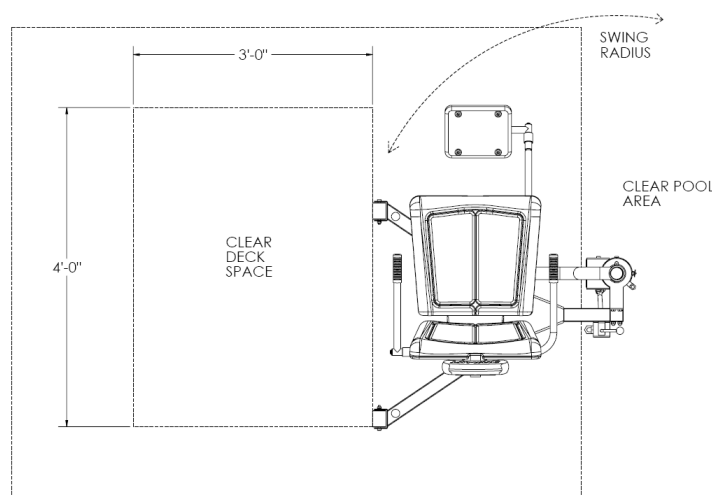

Figure 1
13. Install headrest assembly in the receiver on the back of the seat frame and secure with the plastic lobe knob screw as shown in Figure 1.